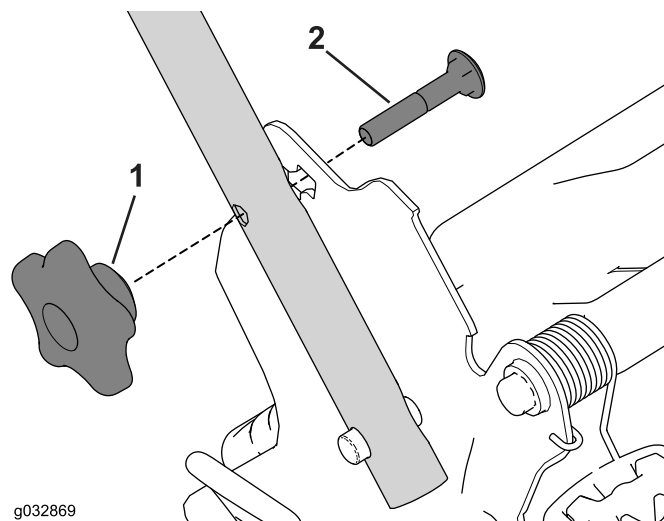

Figure 31
1. Remove and save the 2 handle knobs and 2 carriage bolts from the handle brackets (Figure 31).